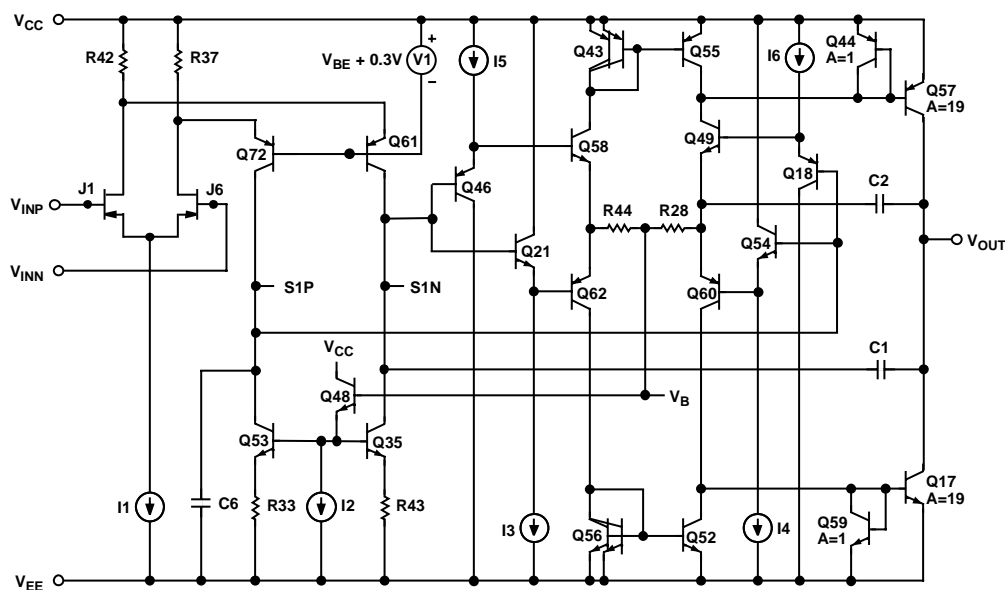

Figure 36. Simplified Schematic
The AD823 is fabricated on the Analog Devices proprietary complementary bipolar (CB) process that enables the construction of PNP and NPN transistors with similar f_T s in the 600 MHz to 800 MHz region. In addition, the process also features N-Channel JFETs, which are used in the input stage of the AD823. These process features allow the construction of high frequency, low distortion op amps with pico-ampere input currents. This design uses a differential output input stage to maximize bandwidth and headroom (see Figure 36). The smaller signal swings required on the S1P, S1N outputs reduce the effect of the nonlinear currents due to junction capacitances and improve the distortion performance. With this design harmonic distortion of better than -91 dB @ 20 kHz into 600Ω with $V_{OUT} = 4$ V p-p on a single 5 V supply is achieved. The complementary common emitter design of the output stage provides excellent load drive without the need for emitter followers, thereby improving the output range of the device considerably with respect to conventional op amps. The AD823 can drive 20 mA with the outputs within 0.6 V of the supply rails. The AD823 also offers outstanding precision for a high speed op amp. Input offset voltages of 1 mV maximum and offset drift of $2 \mu\text{V}/^\circ\text{C}$ are achieved through the use of the Analog Devices advanced thin-film trimming techniques.